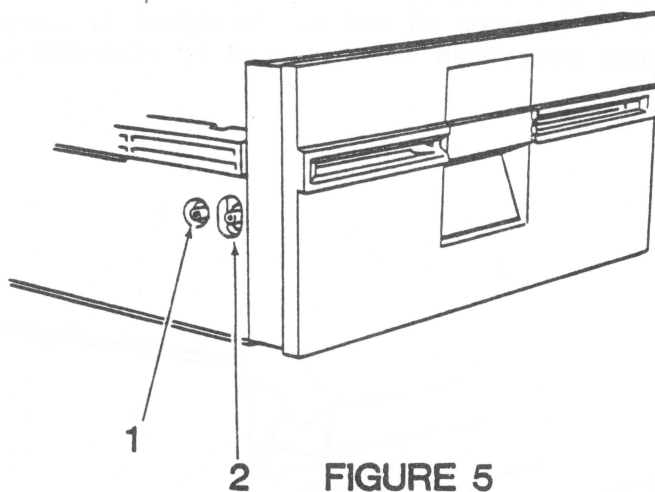

FIGURE 5
6. The switch is located just inside the front left side of the housing as you face the drive door. Locate the two setscrews holding the write-protect switch in place (Figure 5, #1 & 2). The far setscrew (Figure 5, #1) forms a pivot for the switch; the near setscrew (#2) sets the switch position.